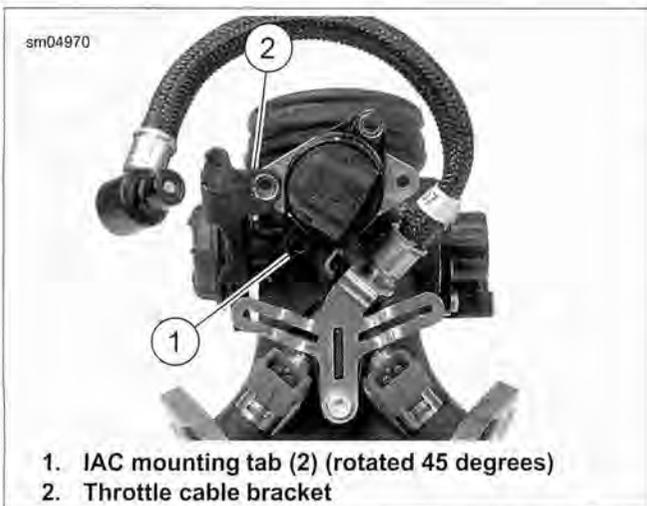

Figure 4-54. Removing/Installing IAC: XR 1200X
4. Using a six-point socket (not a Torx wrench), remove two screws (2) in the following order:
5. See Figure 4-54. Grasp IAC and rotate counterclockwise until IAC mounting tab (1) clears throttle cable bracket (2).
4. See Figure 4-54. Rotate IAC approximately 45 degrees counterclockwise so IAC mounting tab will clear throttle cable bracket (2) when IAC is installed.